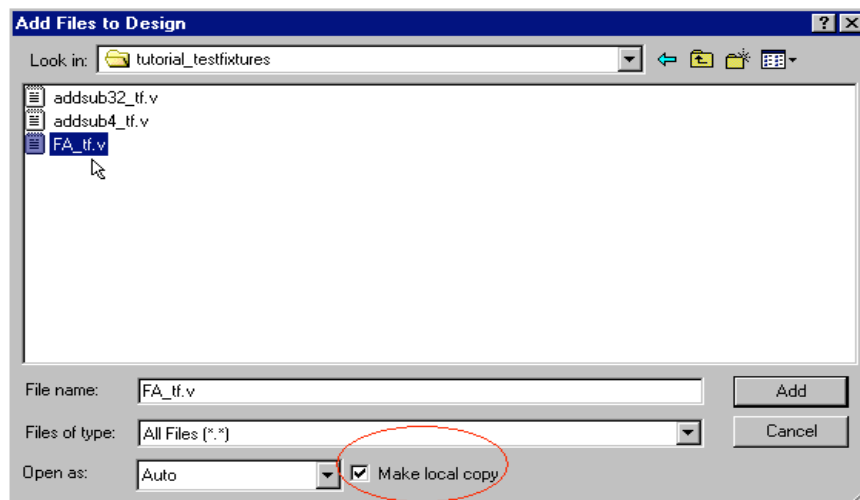

Figure 2
3. Navigate to the folder containing the file, check the “Make local copy” box (See Figure 2), and click the “add” button.